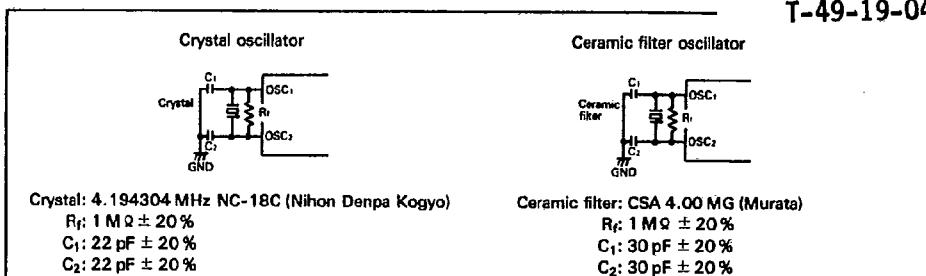

Figure 30. Oscillator Circuit
1. Oscillator stabilization time is the time until the oscillator stabilizes after V_{CC} reaches its minimum allowable voltage after power-on, or after RESET goes high. At power-on or STOP mode release, RESET must be kept high for at least t_{ac}. Since t_{RC} depends on the crystal or ceramic filter's circuit constant and stray capacitance, please get the manufacturer's advice when designing the RESET circuit. (See figure 30)